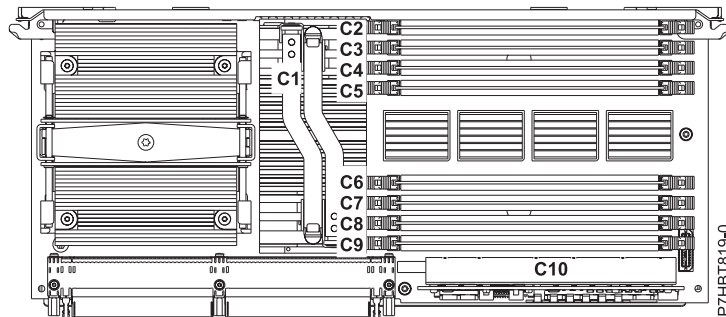

Figure 5. Memory voltage regulator module location (C10)
11. Locate the memory voltage regulator module to be removed from the system processor assembly. Figure 5 shows the memory voltage regulator (C10) in relation to the location on the system processor assembly.